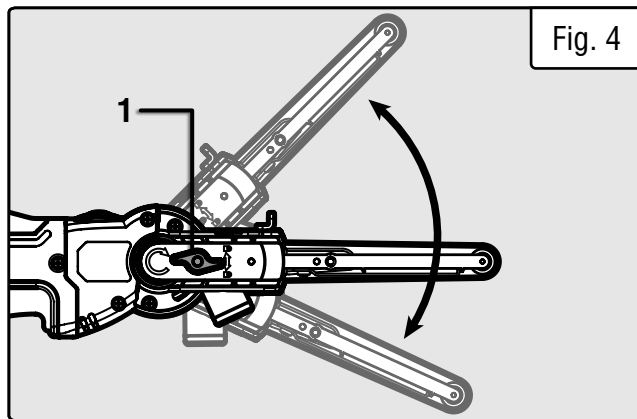

Fig. 4
1. Loosen the angle locking knob (Fig. 4 - 1) by turning it counterclockwise.